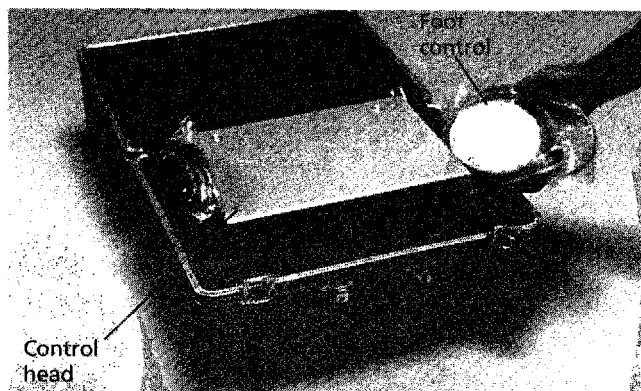

Figure 4. Remove the foot control.
1. Remove the foot control and place it on top of the control head (see Figure 4).